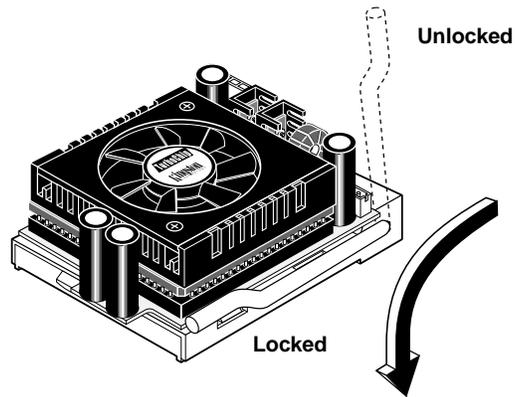

Figure 6: Securing the ZIF Socket
2. Lower the sidebar to close the socket back to a locked position. Refer to Figure 6 below.